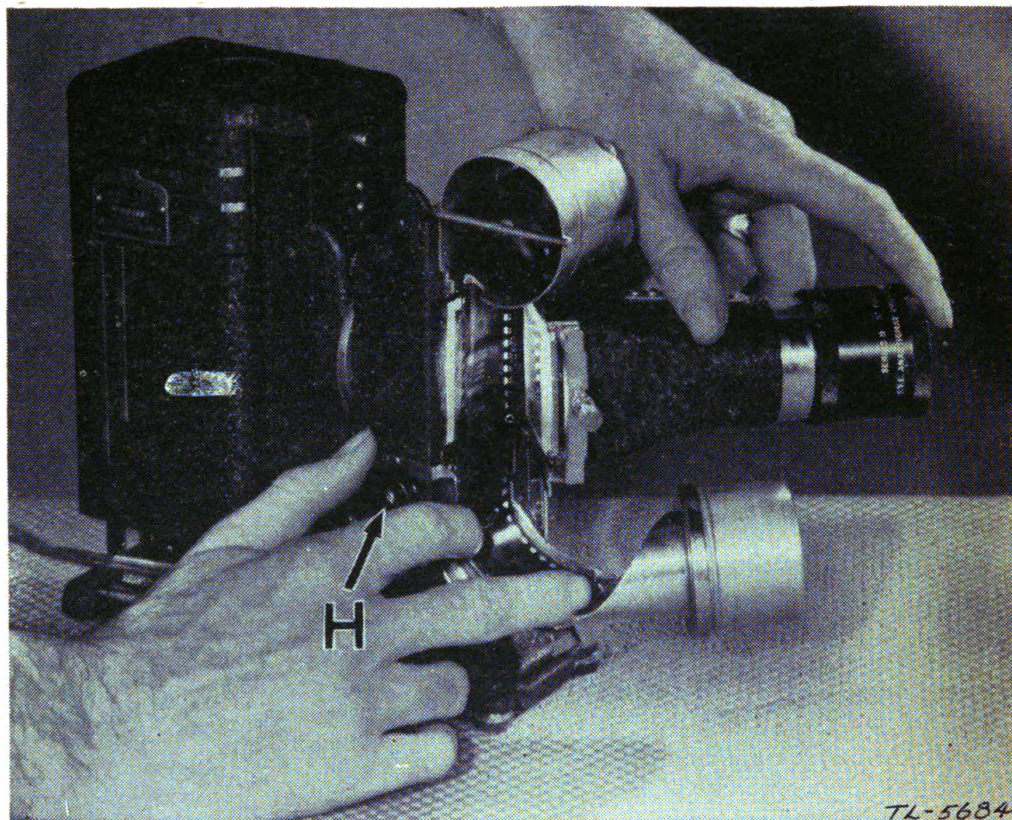

FIGURE 72.—Threading projector PH-222.
22. Framing.—*a.* To frame the image properly on the screen, push in the operating knob *H* (fig. 72) and turn clockwise. When the image is properly framed, release the knob.